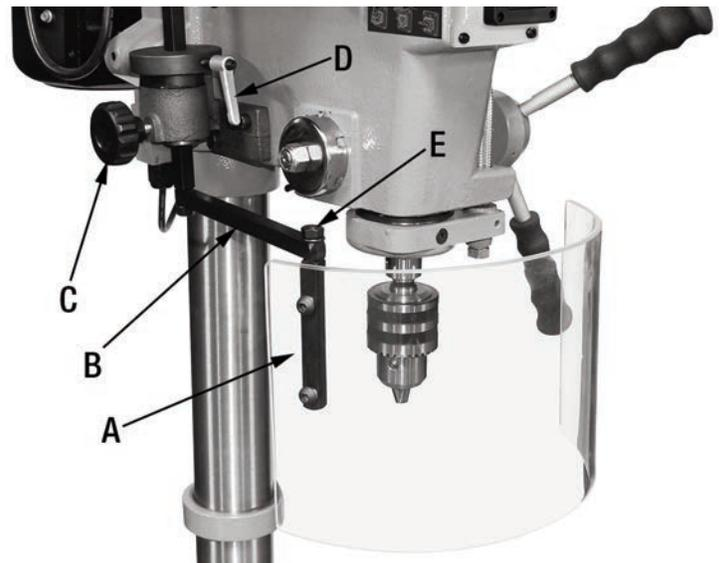

FIGURE 14
The limit switch safety guard (A) Fig. 14 is intended to protect the operator during drilling operations. If the safety guard is not positioned in its closed position (in front of the drill chuck as shown), the safety guard limit switch will prevent the drill press from starting. Close the safety guard and then press the green On button to start. If the safety guard is opened during a drilling operation the drill press will shut off automatically, the safety guard will need to be closed and the green On button will need to be pressed to restart drill press.
1. The height of the safety guard (A) Fig. 14 needs to be adjusted so it covers the cutting tool. To adjust the height of the safety guard assembly loosen lock handle (D), move the safety guard bar (B) up or down until the safety guard is positioned correctly. Retighten lock handle (D).
2. To lock and prevent the bar (B) and safety guard (A) from opening during an operation, tighten lock knob (C).
3. Always make sure the hex. nut (E) is tight, to prevent the safety guard from pivoting at this point. The bar (B) and safety guard (A) must move together.